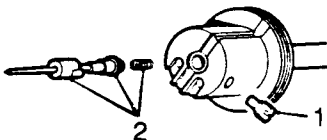

Fig C5.2
- (6) Refer to Fig C5.2. Note the position of the needle guide etch mark in relation to the piston transfer holes for correct reassembly and unscrew the needle guide locking screw (1).
- (7) Withdraw the needle, guide and spring (2).